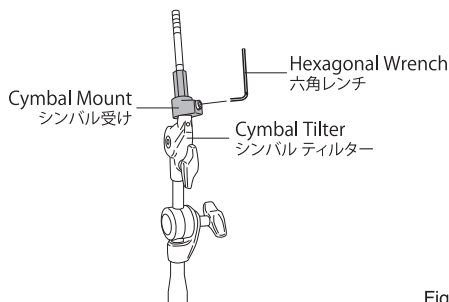

Fig.1
1. Attach and position the CH-830ES securely onto the rack using a recommended clamp. Unscrew and remove the Cymbal Nut from the Cymbal Holder. Insert the Cymbal Mount onto the Cymbal Tilter until fully seated as shown. Tighten the hexagonal screw with the provided wrench (Fig.1).
シンバル受けをシンバルティルターのロッドに根元まで差しこみ、付属の六角レンチで固定します (Fig. 1)。